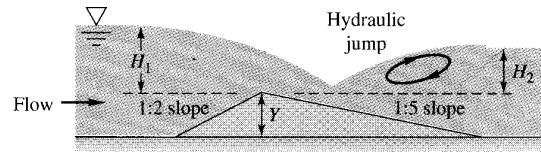

Fig. P10.122 The Crump weir [19, chap. 4]
**10.122** In 1952 E. S Crump developed the triangular weir shape shown in Fig. P10.122 [Ref. 19, chap. 4]. The front slope is 1:2 to avoid sediment deposition, and the rear slope is 1:5 to maintain a stable tailwater flow. The beauty of the design is that it has a unique discharge correlation up to near-drowning conditions,  $H_2/H_1 \leq 0.75$ :
**10.127** A horizontal gravelly earth channel 2 m wide contains a full-width Crump weir (Fig. P10.122) 1 m high. If the weir is not drowned, estimate, from gradually varied theory, the flow rate for which the water depth 100 m upstream will be 2 m.